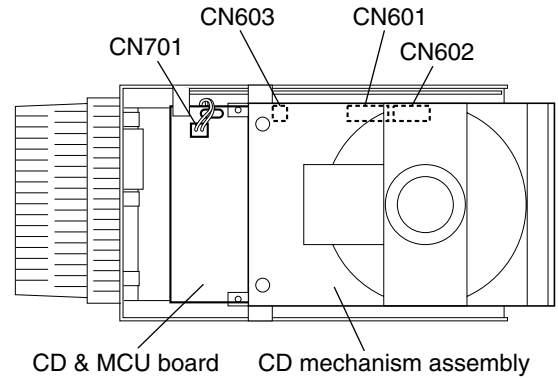

Fig.13
■ Removing the CD mechanism assembly (See Figs. 13 to 15.)